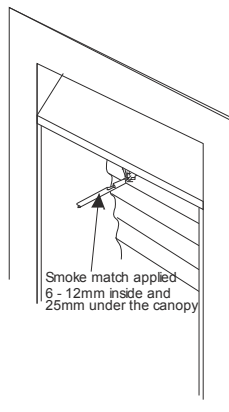

Figure 83
3. Test for spillage using a smoke match (in a 'Blume tube') at the top of the appliance, fireplace opening or under the canopy at the centre, with the smoke match being approximately 25mm under and 6 - 12mm inside the opening (see **Figure 83**).